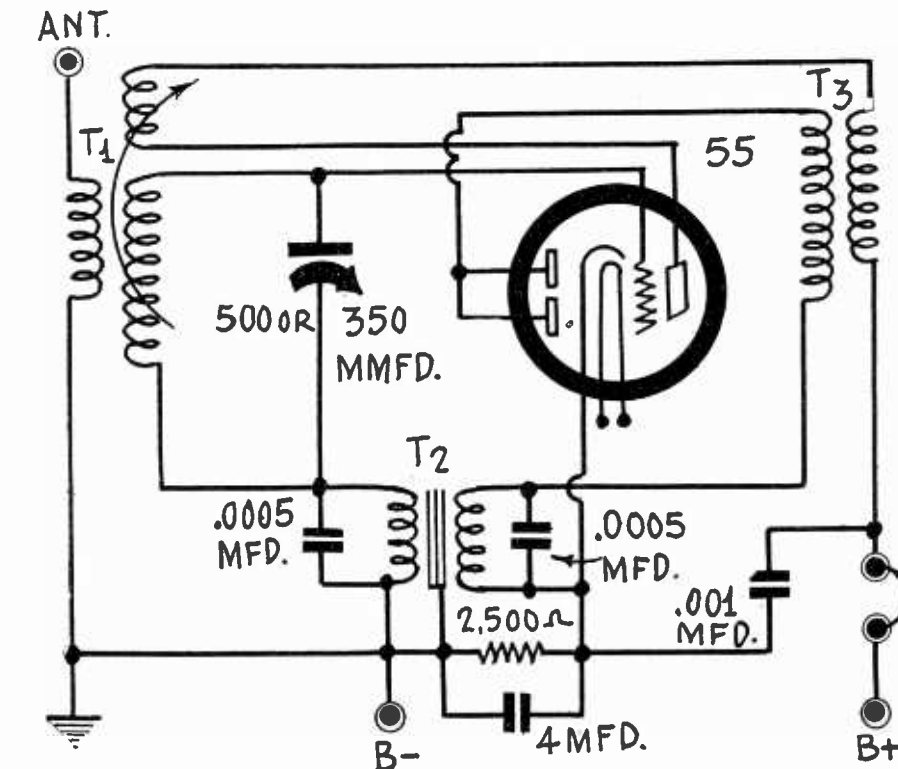

FIG. 1
**L**AST WEEK we described a one-tube set utilizing the 55 duplex diode triode in a regenerative circuit and as diode rectifier. By adding a few more pieces of apparatus we can get still more out of that circuit, by duplexing, that is, by using the triode both as a radio and as an audio frequency amplifier. The circuit of this is shown in Fig. 1.